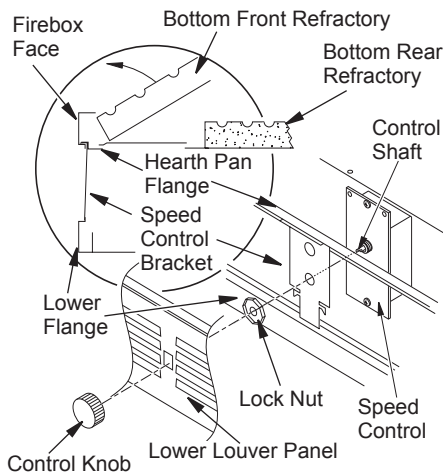

Figure 8: Attaching Speed Control to Firebox with Panel Louvers Using Speed Control Bracket 109892-02
1. Position speed control bracket by inserting flange of bracket between hearth pan and upper flange of louver opening, then seat bottom end of bracket onto lower flange of louver opening (see Figure 8).
2. Mount speed control box by placing plastic control shaft through bottom hole on speed control bracket. Top screw head on control box will fit inside top hole on bracket (see Figure 8). Secure speed control to bracket with lock nut by pushing and turning lock nut with pliers clockwise until it is tight against bracket.
4. Place louver panel, louvers pointing up, back into framed opening. Align control shaft with rectangular opening by sliding control bracket along flange (see Figure 8).
6. Place control knob, provided, onto control shaft (see Figure 8).